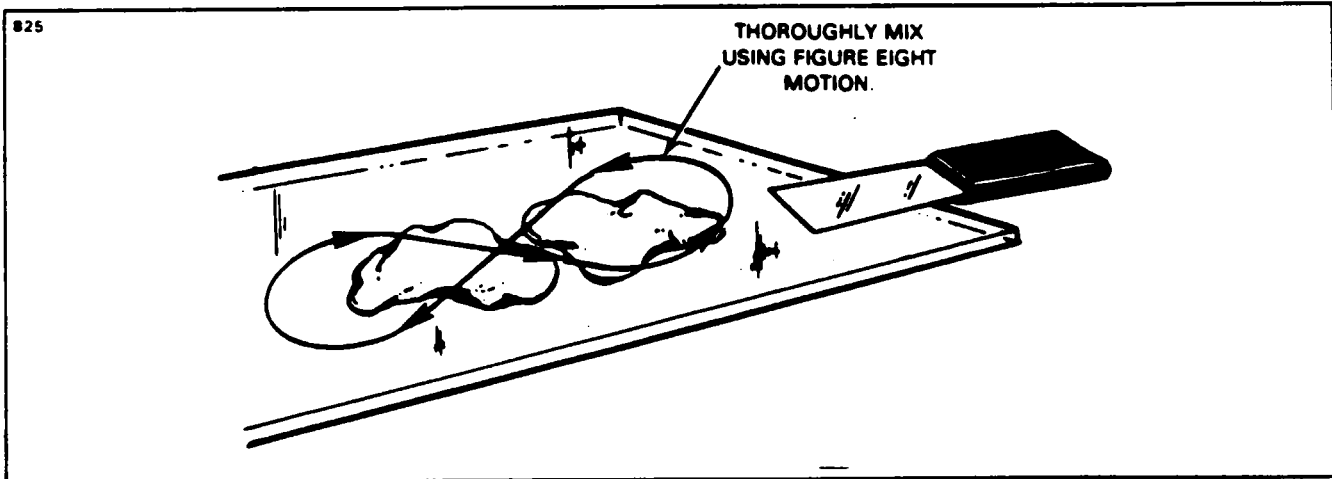

Figure 51-4. Mixing of Epoxy Patching Compound
F. The patching compound is mixed in equal portions on a hard flat surface using a figure eight motion. The damaged area is cleaned with perchlorethylene or VM&P Naphtha prior to applying the compound. (Refer to Figure 51-4.)